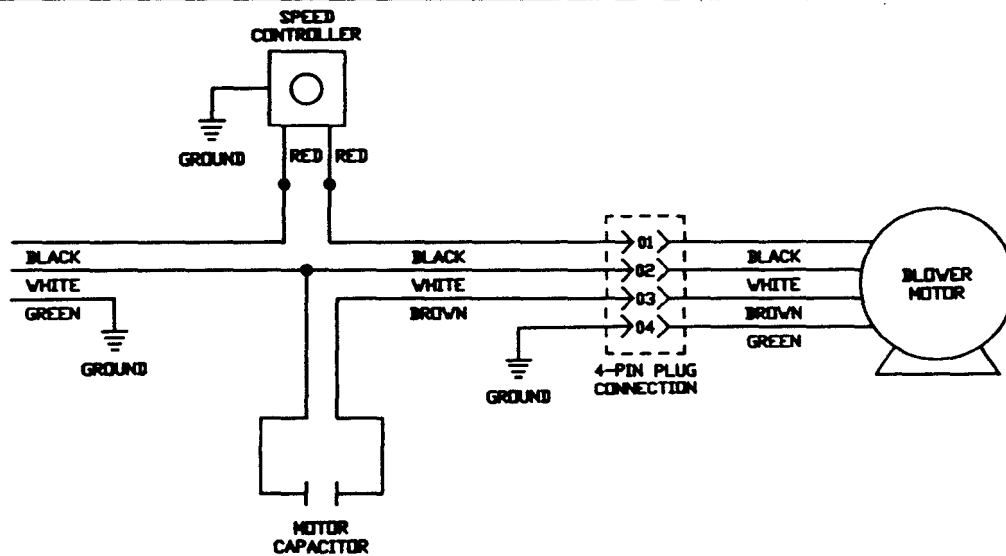

FIGURE 2
2. Run three No. 14 gauge (or heavier) wires through conduit to the wiring compartment on the air cleaner. The green wire should be attached to the external ground. The black and the white wires are the power conductors. The connections are shown in Fig. 2.